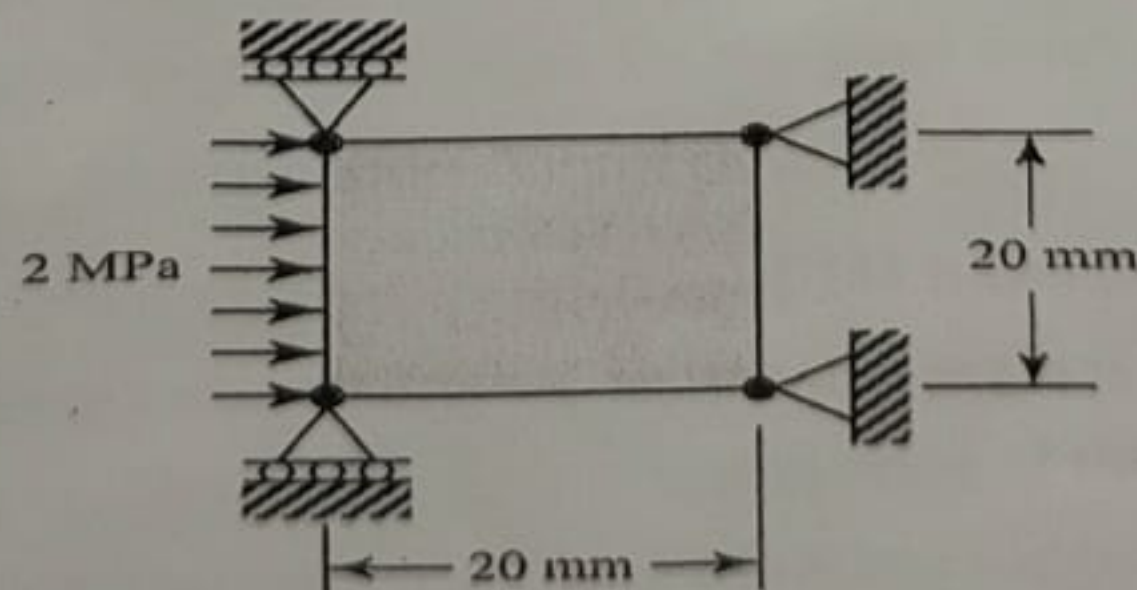

Figure 6
- ii) Consider a 100 mm thick plate under plane strain condition as shown in Figure 6. Find the deformed shape of the plate by discretizing it into a single four-noded rectangular (bilinear) element. Assume Elastic modulus, $E = 200$ GPa and Poisson's ratio, $\nu = 0.3$. [10]